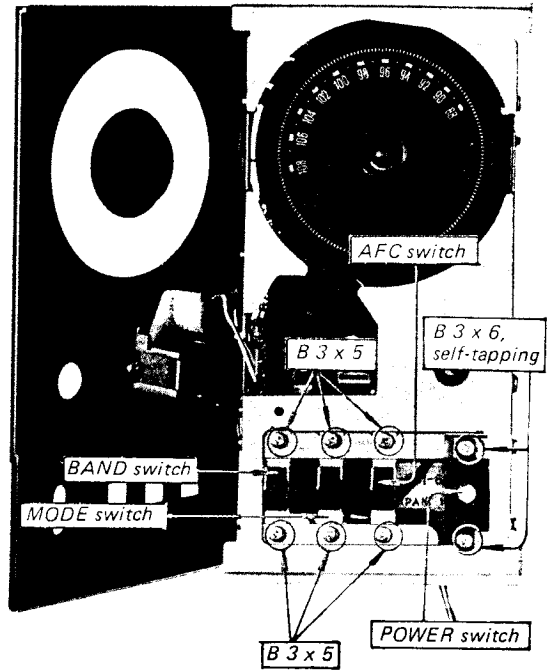

Fig. 2-13. BAND, MODE, AFC and POWER switch replacement
2. Remove the two screws securing each switch to the chassis as shown in Fig. 2-13.